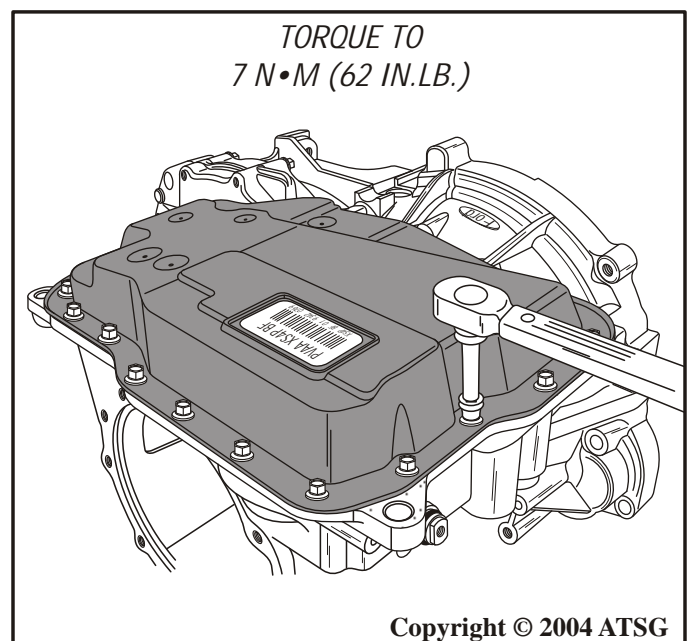

Figure 164
25. Install the twenty fluid pan bolts and torque to 7 N•m (62 in.lb.), as shown in Figure 164.